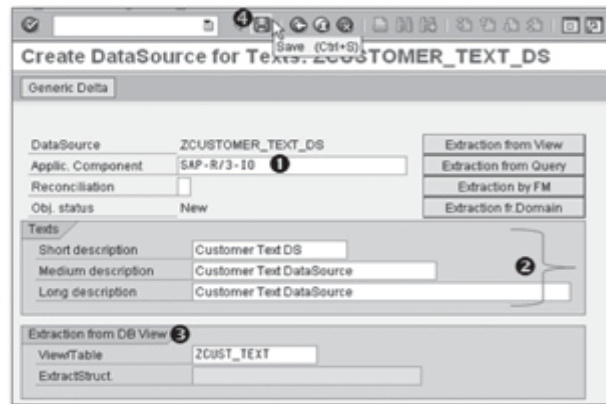

Figure 8.7 Create DataSource Initial Screen
Now that we've reviewed the screen details, let's create a generic text DataSource based on Table ZCUST_TEXT in SAP ERP. Select the appropriate application component from the dropdown list; in our example, we select SAP-R/3-IO, as shown in ❶ of Figure 8.7.